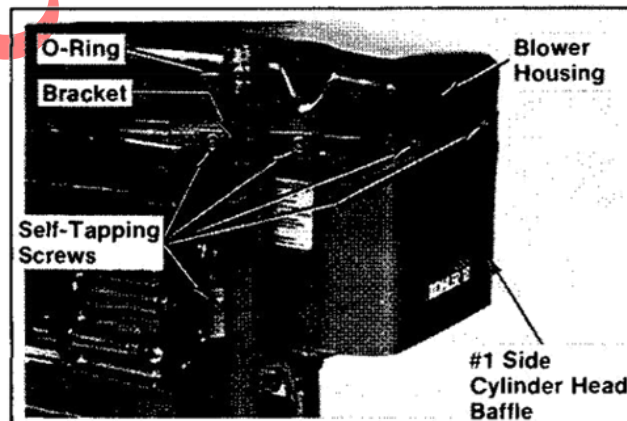

Figure 11-44. Installing #1 Side Cylinder Head Baffle.
4. Install the #1 side cylinder head baffle and self-tapping screws. Slide the oil fill tube support bracket onto oil fill tube and install the o-ring. Secure the bracket to blower housing with self-tapping screws. Refer to Figure 11-44.